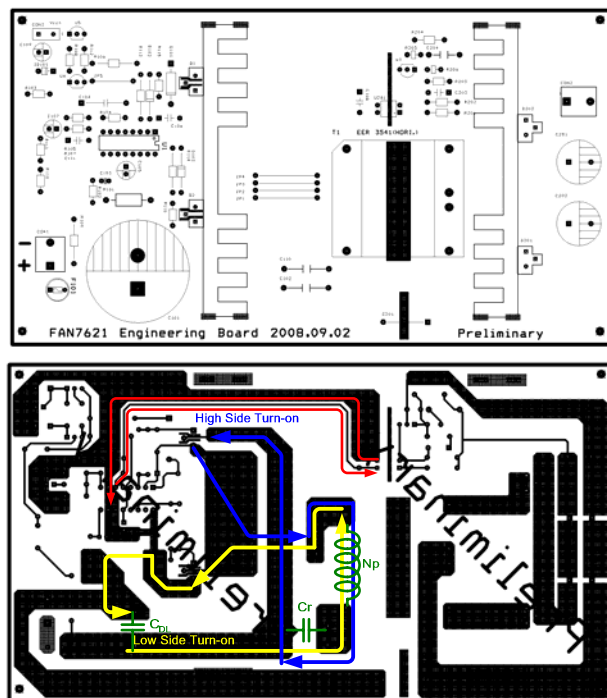

Figure 28. Example for Duty Balancing
6. PCB Layout Guideline: Duty imbalance problems may occur due to the radiated noise from main transformer, the inequality of the secondary-side leakage inductances of main transformer, and so on. Among them, it is one of the dominant reasons that the control components in the vicinity of R_T pin are enclosed by the primary current flow pattern on PCB layout. The direction of the magnetic field on the components caused by the primary current flow is changed when the high-and-low side MOSFET turns on by turns. The magnetic fields with opposite direction from each other induce a current through, into, or out of the R_T pin, which makes the turn-on duration of each MOSFET different. It is strongly recommended to separate the control components in the vicinity of R_T pin from the primary current flow pattern on PCB layout. Figure 28 shows an example for the duty-balanced case. The yellow and blue lines show the primary current flows when the lower-side and higher-side MOSFETs turn on, respectively. The primary current does not enclose any component of controller.
In addition, it is helpful to reduce the duty imbalance to make the loop configured between CON pin and optocoupler as small as possible, as shown in the red line in Figure 28.